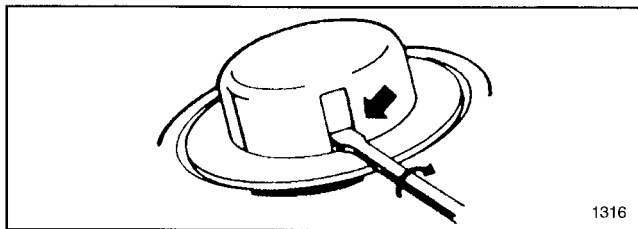

Figure 18
1. (Fig. 18) To remove empty spool, insert widest blade screwdriver snugly into one of two window slots on the spool hub. With screwdriver pressed firmly into window slot, twist screwdriver 1/4 turn. Spool will snap off.